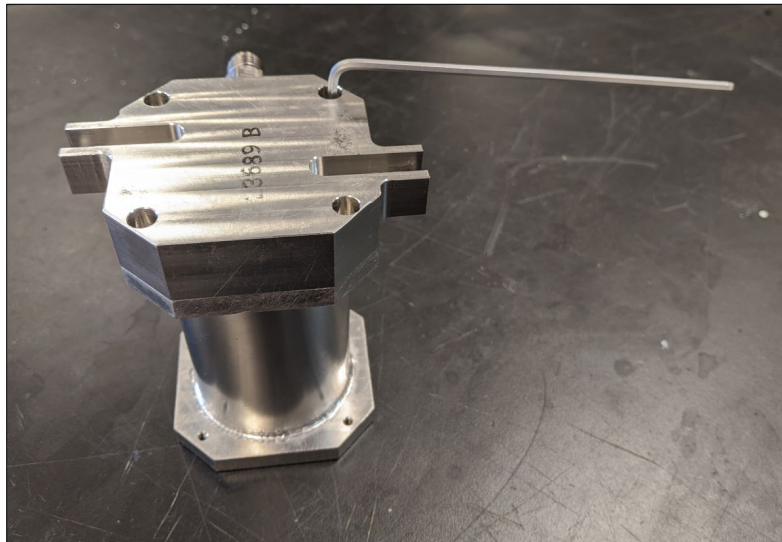

Figure 50: Scrubber Bottom Cover Screw Removal
9. Remove the four screws from the bottom cover as shown (Figure 50).